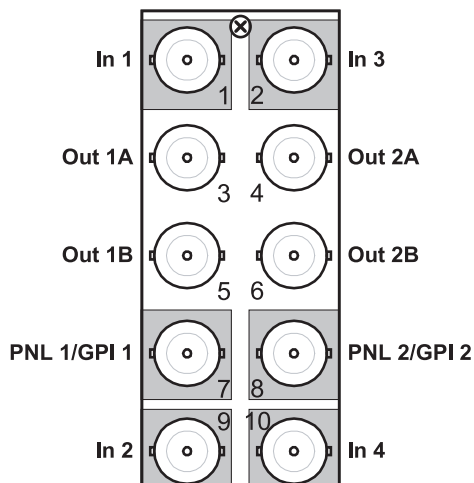

Figure 2.2 Cable Connections for the **R1-8224** and **R2-8224** Rear Modules
In the DFR-8310 series frames, use the **8310AR-030** (R1-8224) Rear Module. Each card occupies one slot and provides four inputs, four outputs and two GPI connections. (**Figure 2.2**).
- **8320AR-030** (R2-8224) Full Rear Module — Each card occupies two slots and provides four inputs, four outputs, and two GPI connections. (**Figure 2.2**)